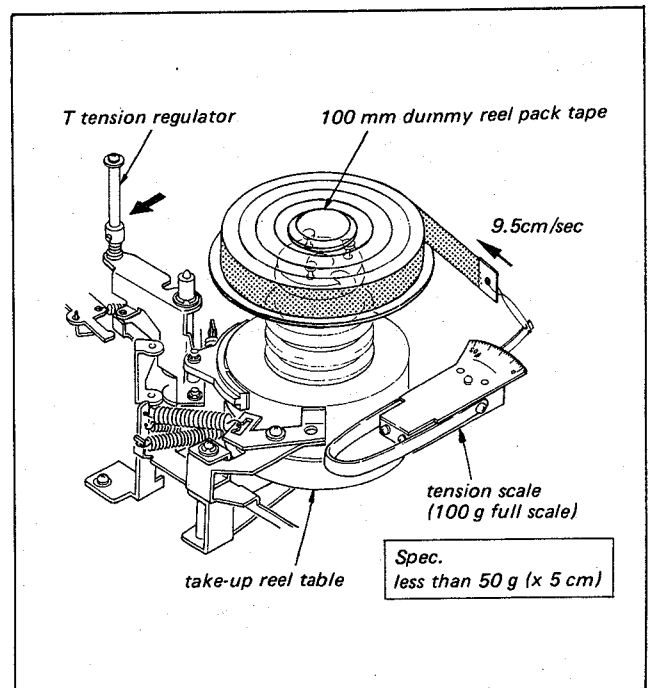

Fig. 5-6. FWD torque check (overall) (FWD mode)
1. Install a 100 mm diameter dummy reel pack tape (Jig Ref. No. J-7) on the Take-up Reel-table as shown in Fig. 5-6.